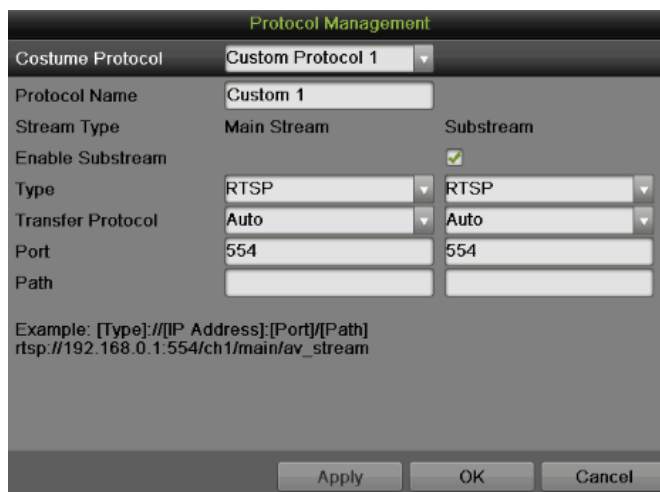

Figure 90 Protocol Management Settings Menu
7. Click Protocol to pop up a Protocol Management box, as shown in Figure 90, to edit the protocol parameters.